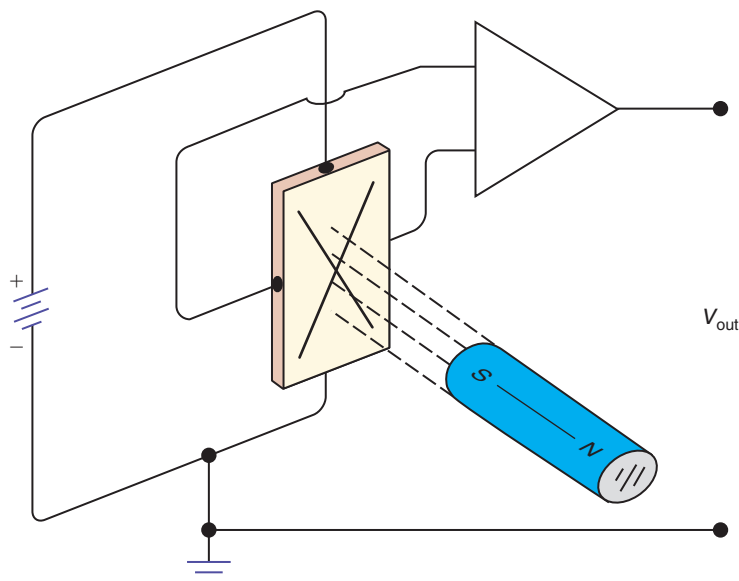

Fig. 5-42 Hall-effect sensor.
80. Refer to Fig. 5-42. The semiconductor material shown with the X on it is called the _____ (electromagnet, Hall-effect sensor).
81. Refer to Fig. 5-42. Moving the permanent magnet closer to the Hall-effect sensor increases the magnetic field causing the output voltage to _____ (decrease, increase).